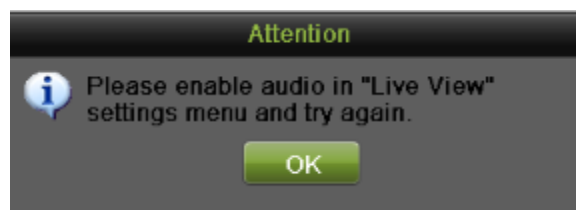

Figure 52 Enable Audio Attention Message
2. Enable audio by clicking the Enable Audio icon and disable audio by clicking the Disable Audio icon. An error message similar to the one shown in Figure 52 will pop-up if the Enable Audio option is not selected in the Live View menu for the specified channel.